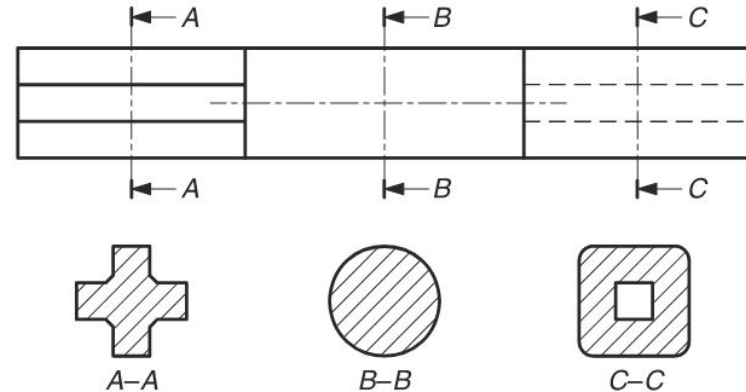

Fig. 9.31
- **Removed Section** A removed section is used to show the variable shape of the object from end to end, Fig. 9.31.